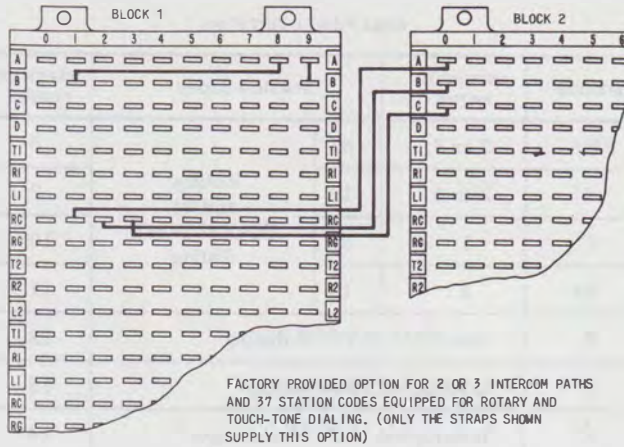

Fig. 8—FW Option
4.02 The FW option (Fig. 8) is a factory-provided option. The FW option provides for two or three intercom paths with 37 station codes. Stations can utilize both rotary and TOUCH-TONE dialing. Digits 1, 2, and 3 are used as transfer digits and are not available for station codes. Where the third intercom path is used, an external (66-type)